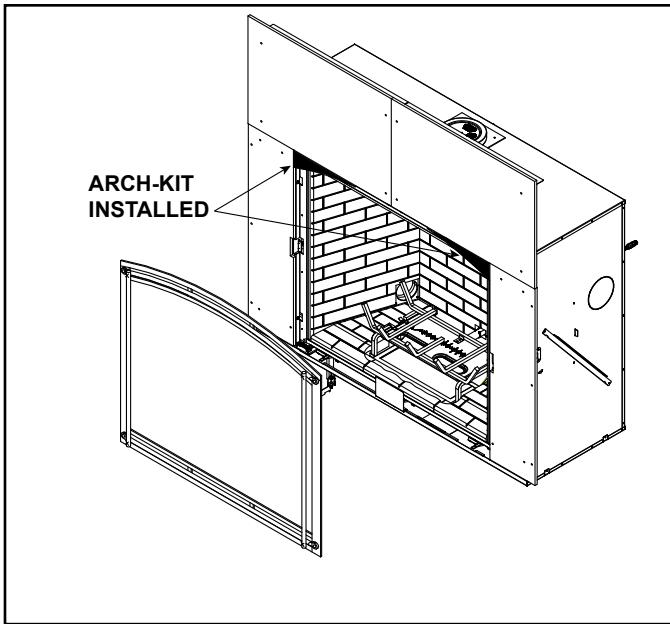

Figure 7. ARCH-KIT Installed
**NOTE:** Decorative fronts with an (A) in the model name denote "Arch". Arch decorative fronts require the ARCH-KIT-36, ARCH-KIT-42 or ARCH-KIT-50. See Figure 7.